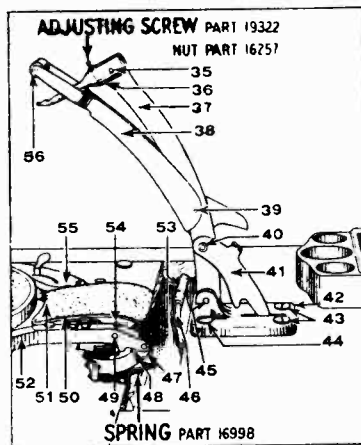

Fig. 2
2. If the record lift ring (No. 52, Fig. 2) fails to pick up record:
- b. The magazine spindle (No. 36, Fig. 2) should either be lowered or raised slightly as the case may warrant, by adjusting screw (Part No. 19322).
4. Should binding of the record lift pad (No. 50, Fig. 2) occur:
- Remove the shaft (No. 49, Fig. 2.) If bent, it should be replaced with a new shaft.
The small spring (Part No. 16998) shown in Fig. 2 may be broken or disconnected.